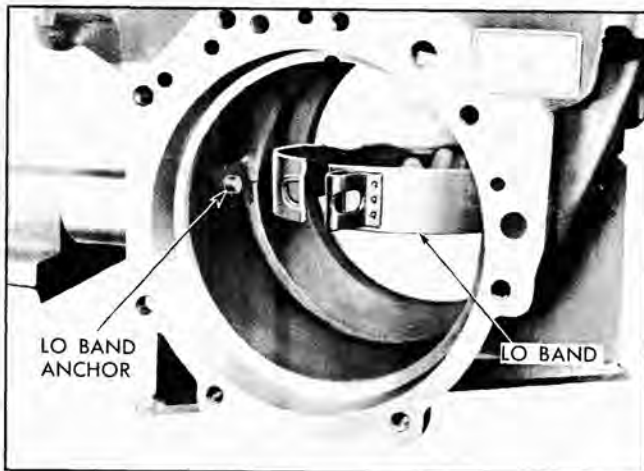

Fig. 65 Removing Lo Band
1. Unhook band end from anchor inside of case (Fig. 65).
3. Turn band so that ends are facing rear of case (Fig. 65).